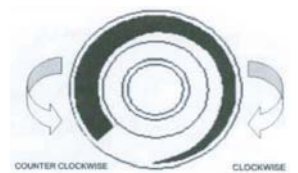

Figure 2.
- To set the thermostat to the lowest temperature, rotate the knob to the full counter-clockwise position. The full clockwise position is the highest temperature setting. (see fig.2)
- This is done by rotating the knurled knob clockwise. Only adjust pressure slightly higher than necessary to prevent activation during spraying applications (See fig.2).
- The water flow is controlled by means of an external adjustment knob (fig.2) that allows the injector to be placed on either the upstream or downstream side of your power washer.